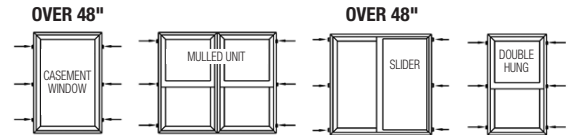

FIG. 13
- J) Check the unit for square using diagonal measurements. Shim window to ensure the unit is square. Casement units over 48" in height must have shims placed at the center to prevent bowing of jambs. **Note: Use flat shims.** (Fig. 13)
- K) **For double hung units: To ensure proper window operation and performance, it is critical to shim at the check rail to ensure the frame widths are equal at the top, center and bottom of the unit. (Fig. 13)**
- M) Make sure jambs, head and sills are straight. Additional shimming may be required. (Fig. 13)